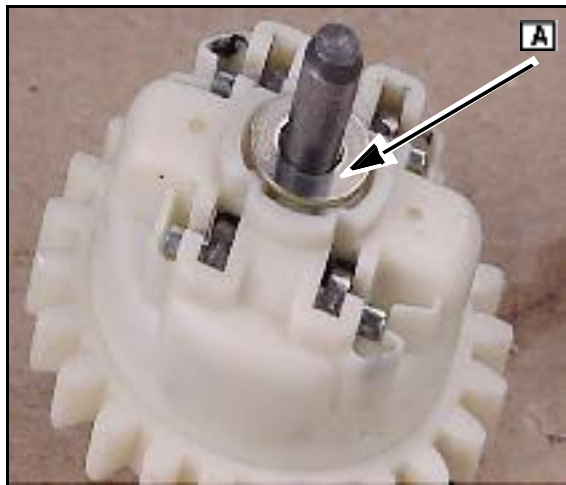

Fig. 9
2. Set thrust washer (if used) on the shaft of the governor gear ([A] Fig. 9).